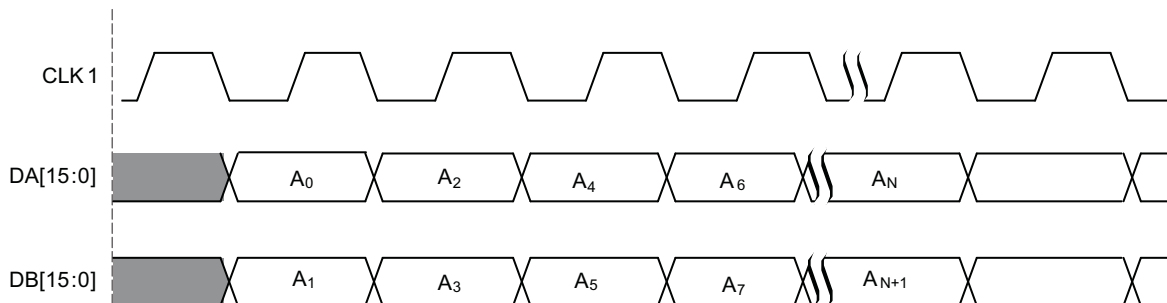

Figure 38. HALF RATE BUS MODE (Dual Clock Mode)
In HALF RATE BUS MODE, the user inputs data on both DA[15:0] and DB[15:0] ports at half rate and input logic merges both data streams into one DAC channel (A). This mode is selected by setting CONFIG1 **insel_mode[15:0]** = '11'. Refer to Figure 38.